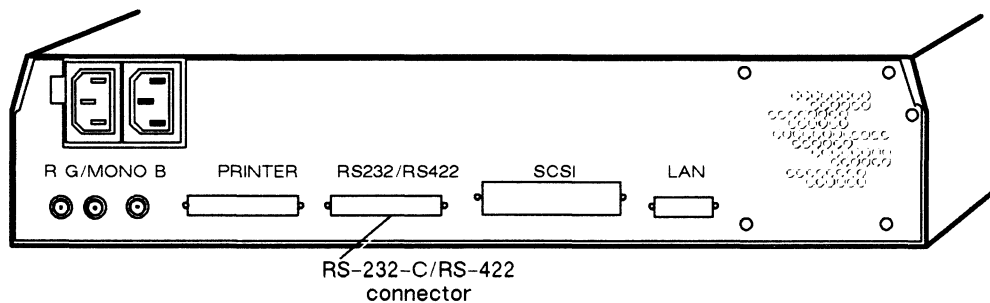

Figure 2-23 RS-232-C/RS-422 Connector on the Back of the Computer Unit
1. Plug one end of the terminal, modem or printer cable into the RS-232-C/RS-422 connector on the back of the computer unit shown in Figure 2-23. Attach the cable to the connector by tightening the two screws on the cable.